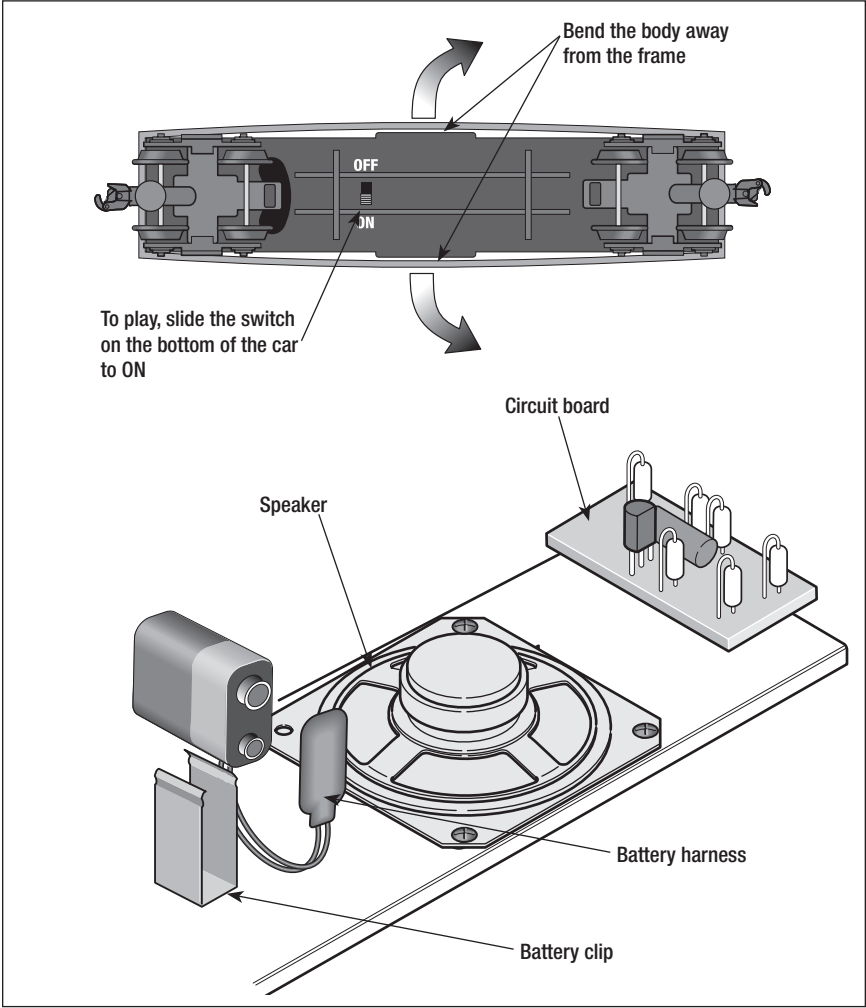

Figure 6. Battery installation and switch location
**Y**our Christmas music boxcar requires one nine-volt alkaline battery (not included). To install the battery, open the door, attach the battery harness to the battery, then slide the battery into the battery clip. See Figure 6. If you have a difficult time installing the battery in that confined space, simply pull away the sides of the body and lift it away.